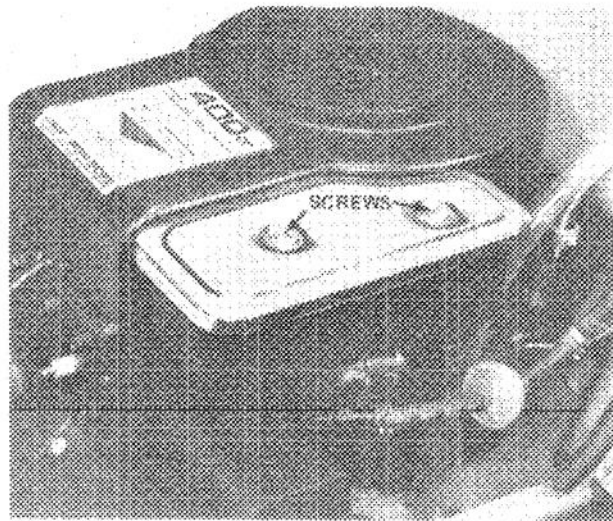

Figure 28
1. Open the hood, remove the screws holding air cleaner cover in place and remove cover (Fig. 28).